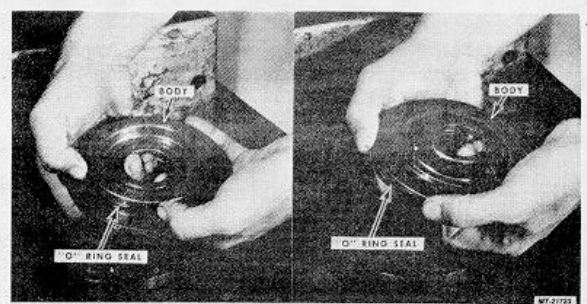

Fig. 31
28. Remove "O" Ring Seals. Fig. 31.